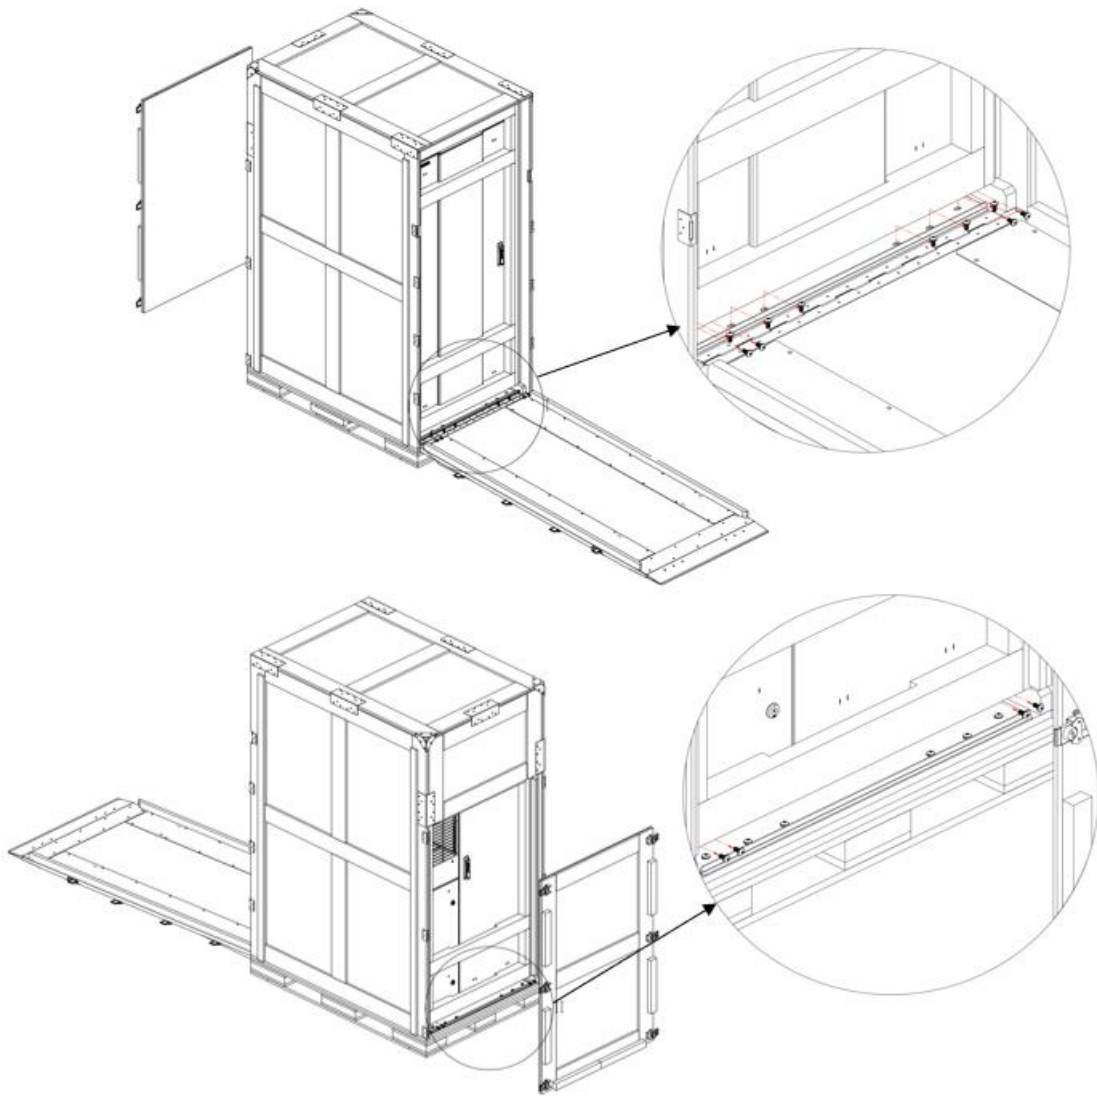

Figure 3-7 Remove the screws securing the cabinet
- b) Remove the screws securing the cabinet as shown in Figure 3-7.